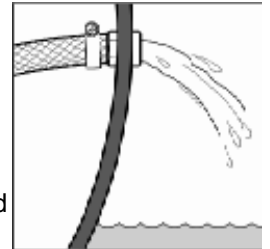

Fig. 6 Discharge point
- Fig. 6 Discharge point is well above the water line